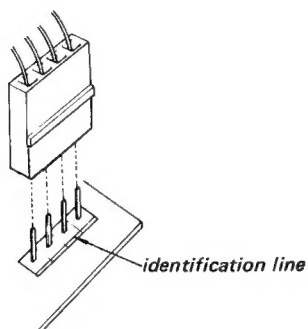

Fig. 2-8.
**Note:** Be careful with the position and the direction of the connectors when re-installing them to the circuit boards. See Fig. 2-8.